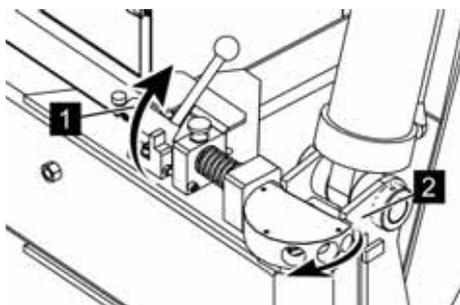

Fig. 58: Loosening the latching
2. → Put the latching bolt (Fig. 58/1) into the position shown (Fig. 58) so that the outrigger (Fig. 58/2) swivels freely.